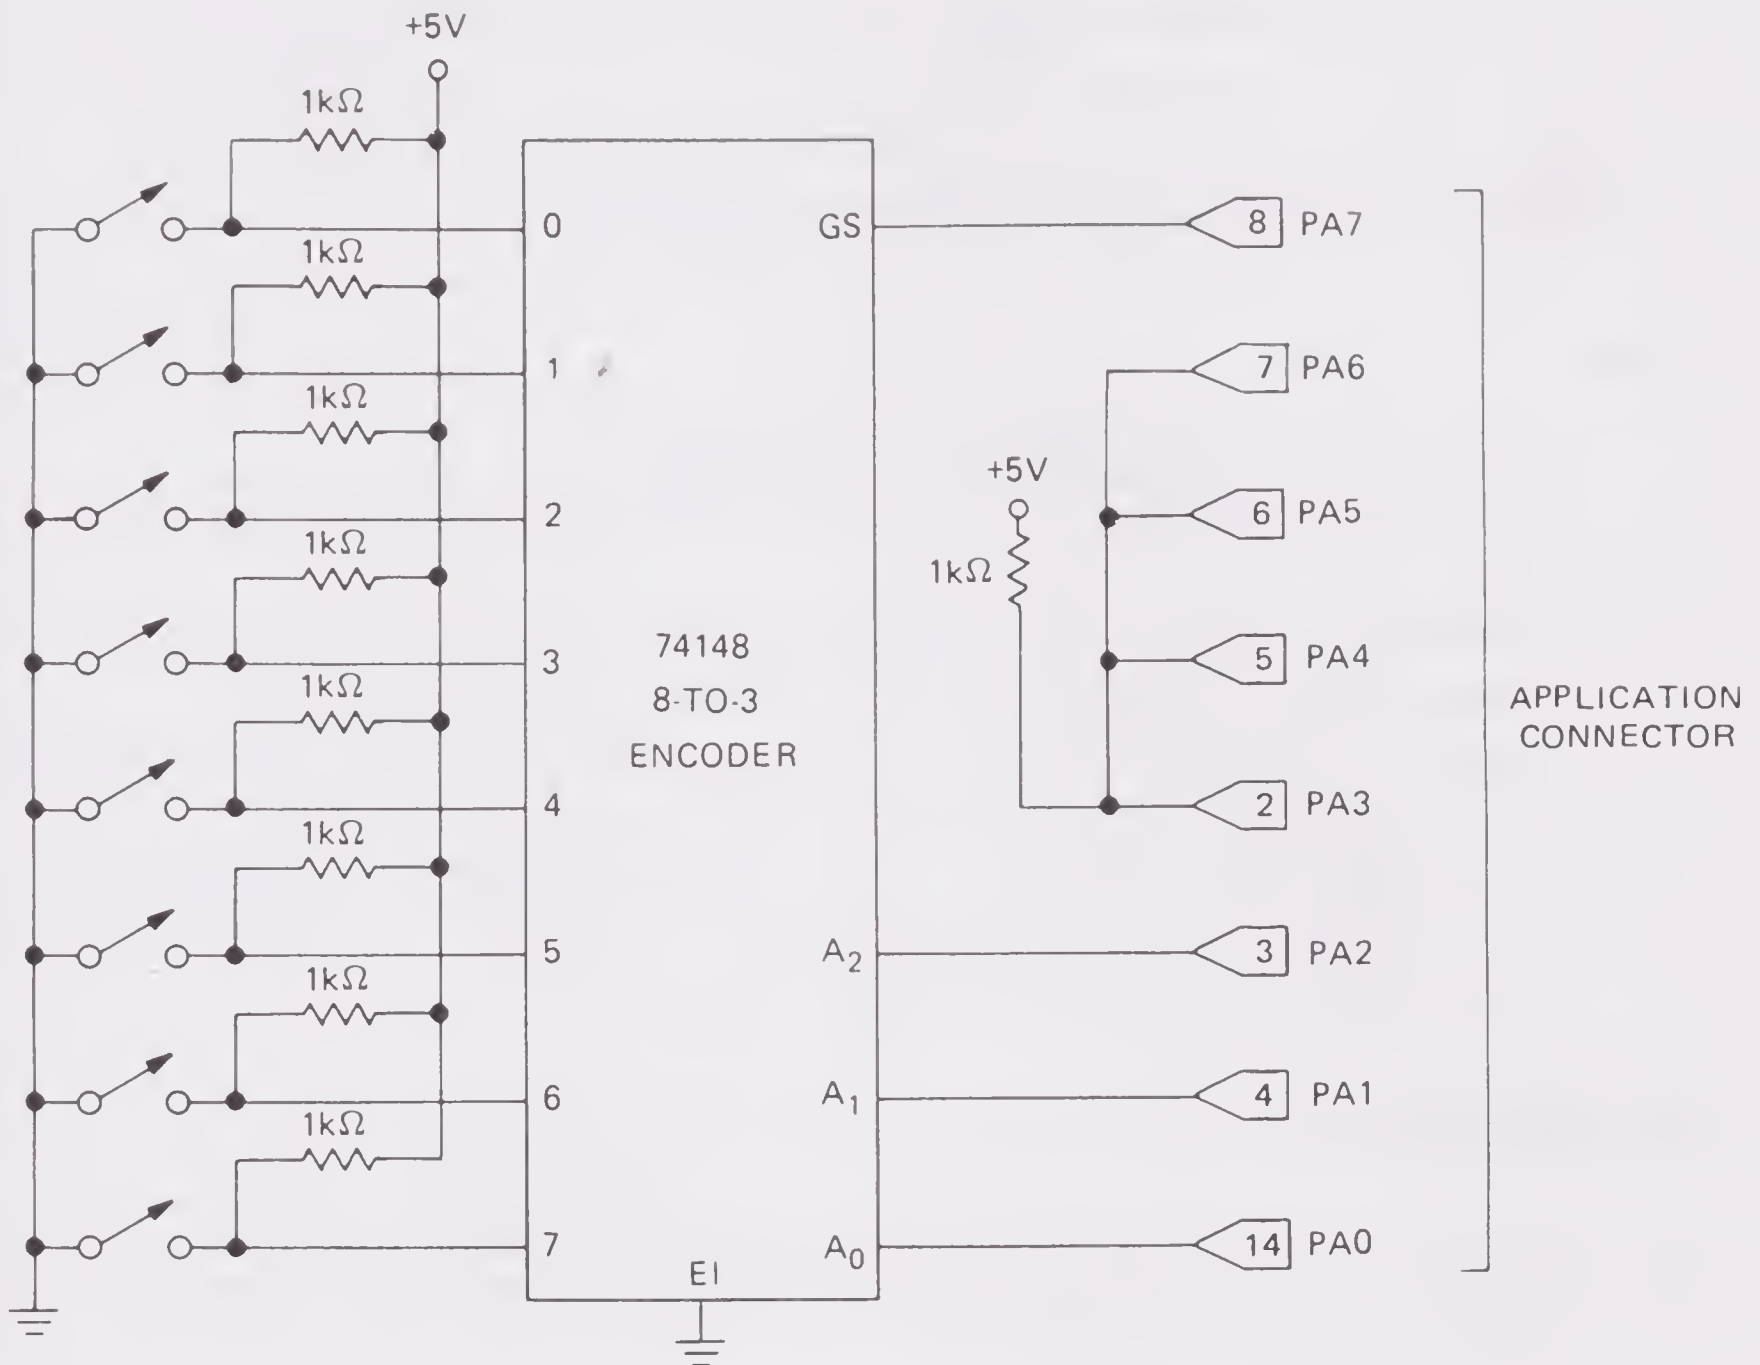

FIGURE 4-1. Attachment of switches and an encoder to user VIA port A.
- Eight switches attached through an encoder to user VIA port A as shown in Figure 4-1. This add-on can employ the same switches as the add-on in Figure 2-1, since the two are not needed at the same time.